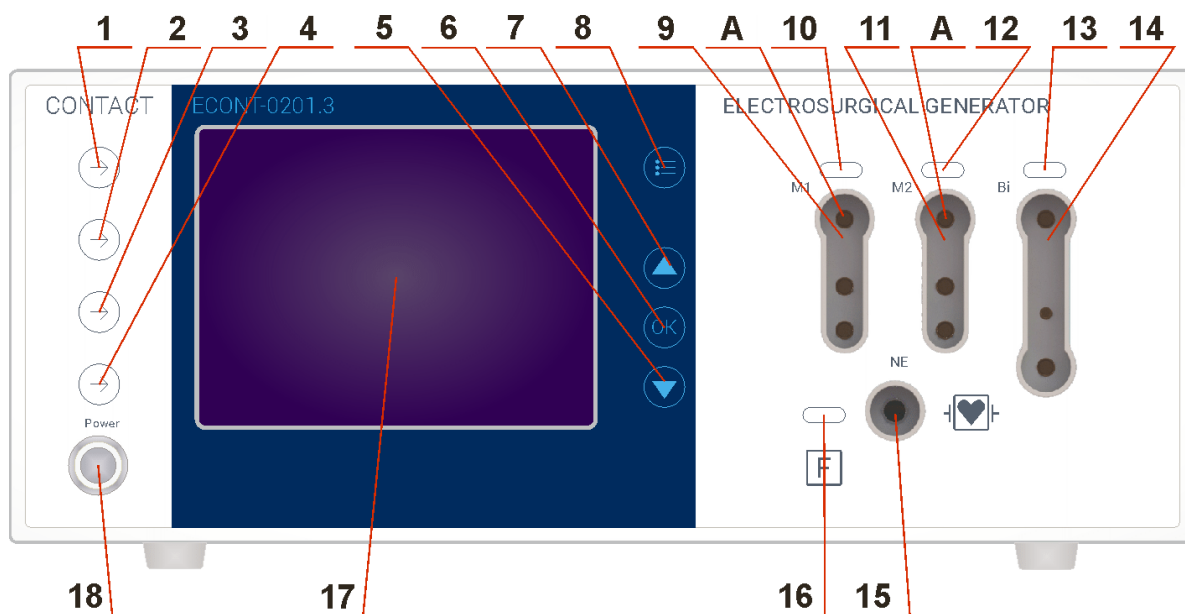

Figure 2 - Operation controls, front panel
Before turning on, please study carefully the operation controls and indicators on the front and rear panels (Figures 2 and 3 accordingly).
The neutral electrode connection socket 15 (refer to Figure 2) is made according to the 6.3 mm standard.
The sockets A of the active monopolar outputs M1 and M2 (refer to Figure 2) is also made according to the so-called 3-pin standard. In the case of laparoscopy procedures, one can use a cable with a single 4-mm banana plug.
The bipolar output socket 14 (refer to Figure 2) is made according to the 2 x 4 mm standard.
- ◆ Turn on the power using power switch on the rear panel. The Power on/Stand by button 18 (Fig. 2) on the front panel should blink, thereby indicating that the unit is in a standby mode. Press the button 18 (Fig. 2) on the front panel to put the unit into operation mode. The Power on/Stand by Button has to light up continuously.
- ◆ Connect NE cable to NE connector (pos. 15 Fig. 2) and a reusable solid NE. Check the status of the neutral electrode: NE indicator (pos. 16 Fig. 2) should be lit in green. If the LED lights red, check the integrity of the neutral electrode cable and detach connections.
- ◆ Briefly activate the unit using each of the footswitch keys. When activating the unit, check the Indicators 10, 12 and 13 (Fig. 2) of the respective monopolar M1 and M2 and bipolar Bi output connectors and unit operation modes.
Non-critical errors are displayed in yellow, to continue the operation press «OK» button (pos. 6 Fig.2).